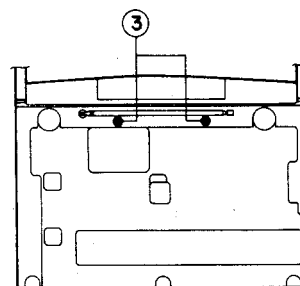

Fig. 2-6
1. Remove two screws (3) retaining the CD unit from the back side. (Fig. 2-6)